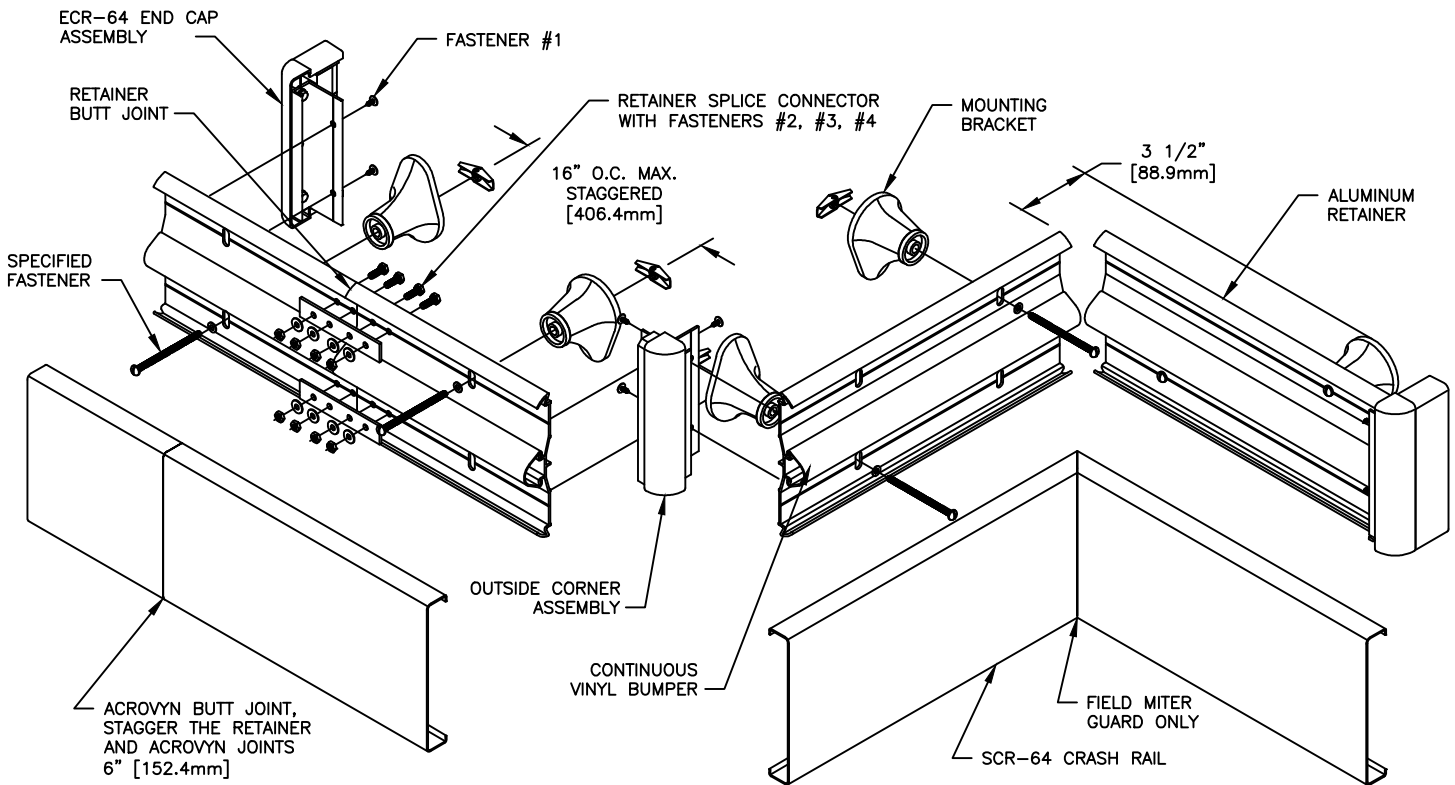

FIGURE 1.
2. CUT THE CONTINUOUS ALUMINUM RETAINER AND THE CONTINUOUS VINYL BUMPER TO LENGTH, USING THE REQUIRED DEDUCTIONS AS NOTED (SEE LAYOUT VIEW). PRE-DRILL CLEARANCE HOLES IN THE ALUMINUM RETAINER 16" [406.4mm] O.C., STAGGERED AS REQUIRED (SEE FIGURE 1)(SEE NOTE 2 AND CHART ON PAGE 2).